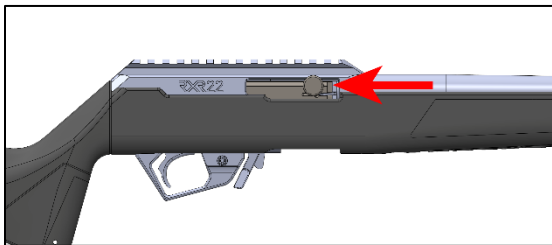

Figure 16
- If a cartridge fails to fire, wait thirty (30) seconds while keeping the muzzle pointed in a safe direction.
- While avoiding exposure to the ejection port, grasp the cocking handle and briskly pull fully rearward to eject the misfired round - Figure 16.